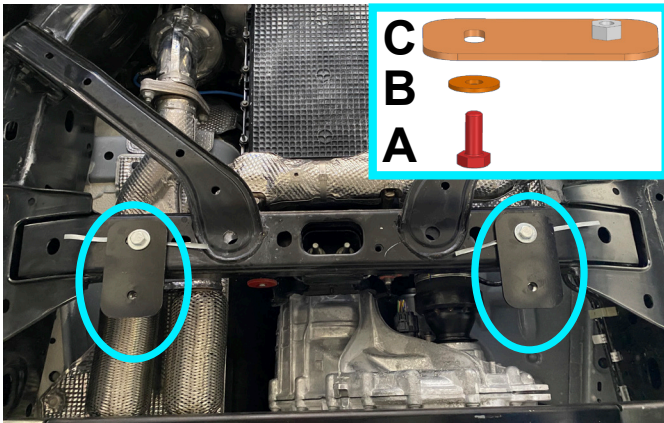

Fig. 3
3. Fix brackets (item C) to insert nut M10 (item D), using bolts M10x25 (item A) and washers 10 (item B), as shown in fig.3.